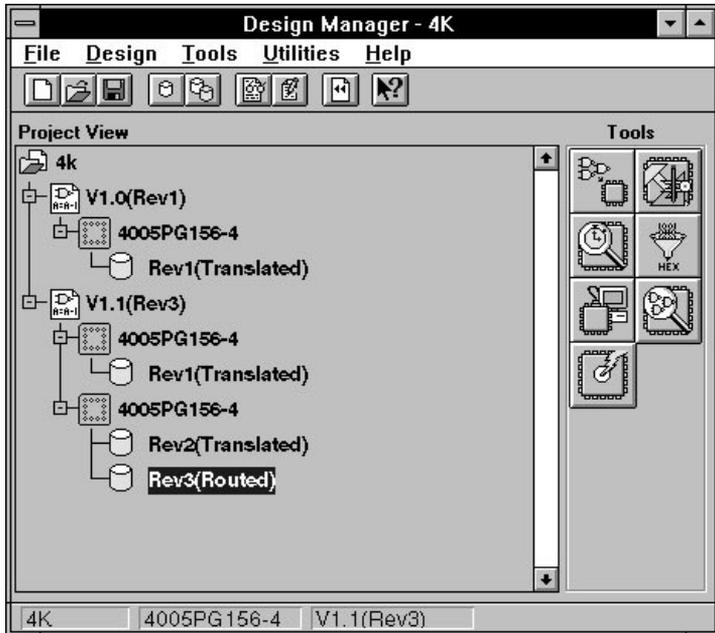

Figure 10-3 Design Manager Configuration Dialog Box (XC4000)
1. From the Design Manager, select the routed design icon, shown in Figure 10-3.